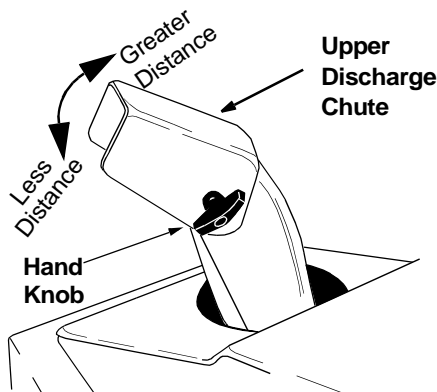

Figure 10
- Adjust the upper discharge chute up or down as shown in Figure 10. Then use the chute crank to position the discharge chute in order to discharge snow with the wind.